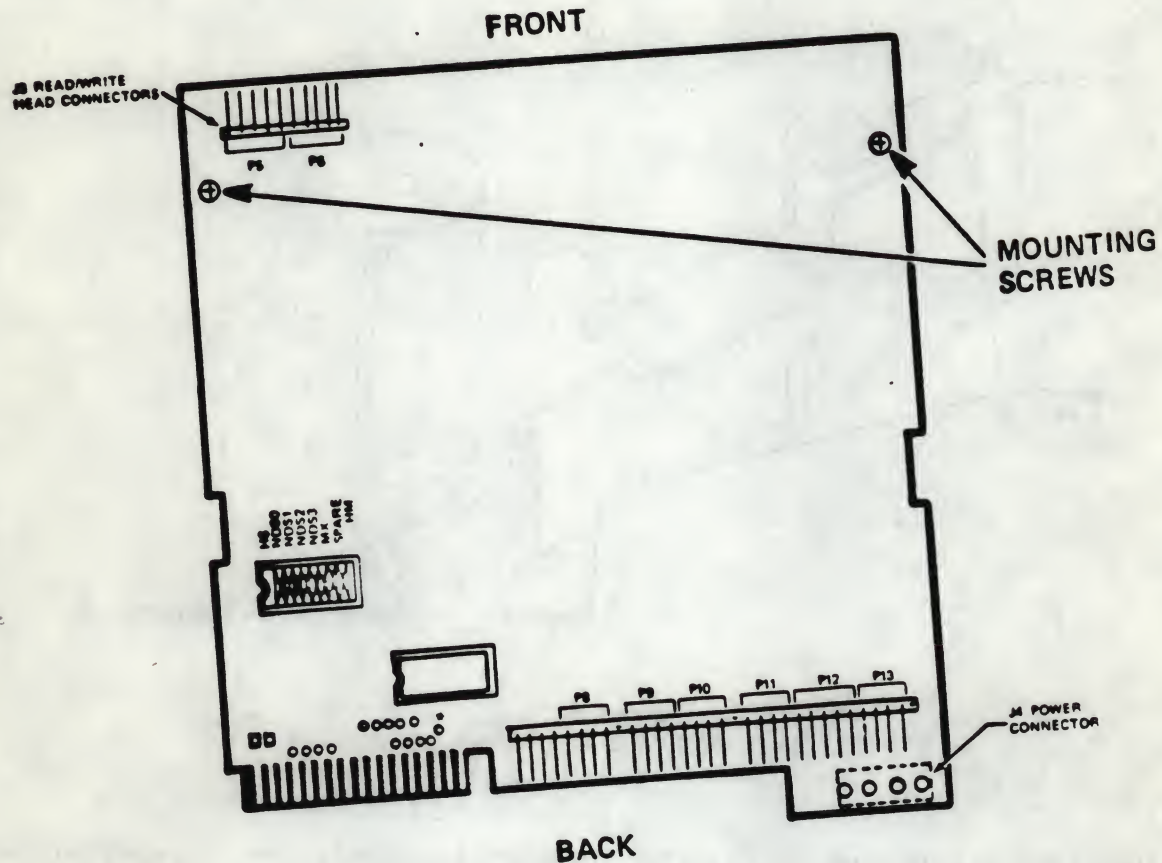

Figure 5-2
Unplug the eight (8) connectors on the Logic PCBA (see Figure 5-2).
- 5.2.2 With a Phillips screwdriver, remove the two (2) mounting screws that attach the Logic PCBA to the chassis (see Figure 5-2).
- 5.2.7 Plug in all connectors, ensuring that they are in their proper slots (see Figure 5-2).